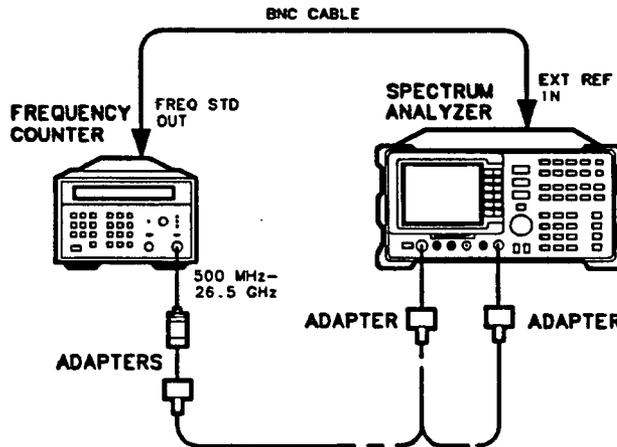

Figure 2-5. Frequency Tracking Range Setup
2. Remove the rear-panel jumper that is between the 10 MHz REF OUTPUT and EXT REF IN jacks. Connect the frequency counter FREQ STD OUT connector to the spectrum analyzer EXT REF IN connector as shown in Figure 2-5.
7. Connect the RF OUT 50Ω connector to the microwave frequency counter input as shown in Figure 2-5.